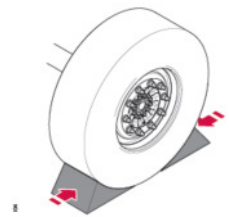

Fig. 1 · Räder sichern
1. Secure vehicle against rolling (fig. 1)